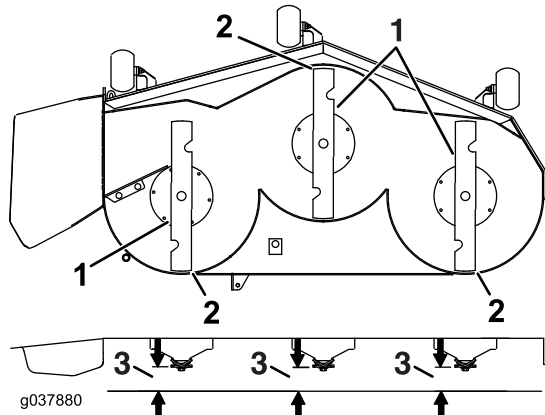

Figure 80
7. Check the front-to-rear blade level (Figure 80). Ensure the front blade tip is lower than the rear blade tip as shown in the block height and rake table. If adjustment is needed, continue with this procedure.